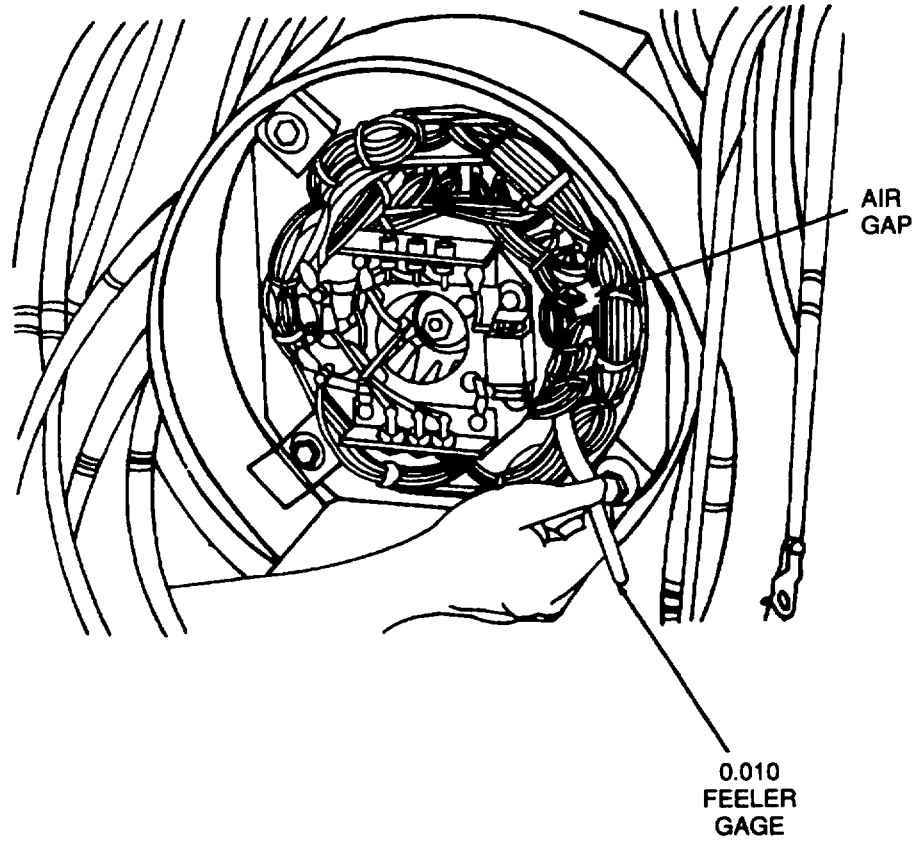

Figure 2-11. Generator G1, Checking Exciter Air Gap
- (35) See Figure 2-11 and check the exciter air gap (gap between exciter armature and stator) by inserting a 0.010 inch (0.25 mm) feeler gage in the gap and rotating it around the armature diameter to ensure that a minimum air gap of 0.010 inch (0.25 mm) is available. If the feeler gage cannot be rotated one full revolution, then check for a "cocked" exciter stator or loose stator mounting capscrews. Refer to Chapter 5 as necessary.